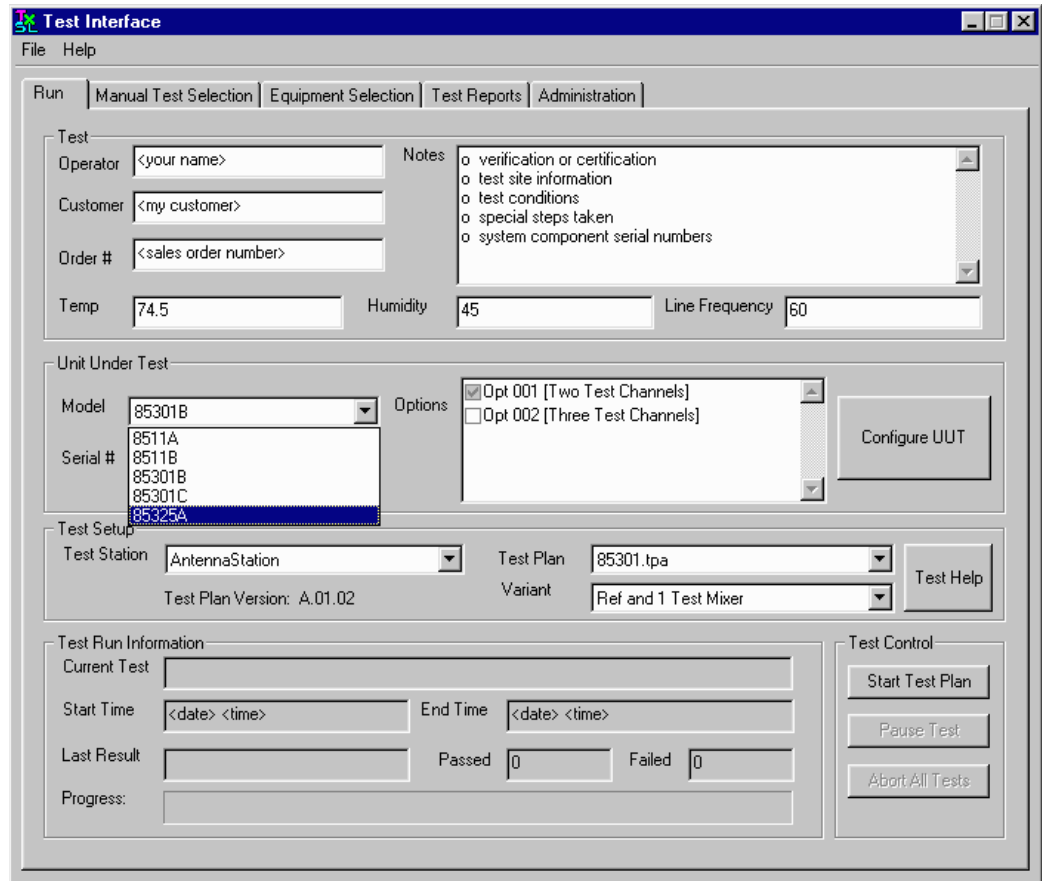

Figure 20 *Model Drop-Down List*
3. Select the **Model** of the unit under test (UUT) from the drop-down menu in the **Unit Under Test** field. UUT refers to the customer's system. See Figure 20. Table 10 describes the UUT selections.